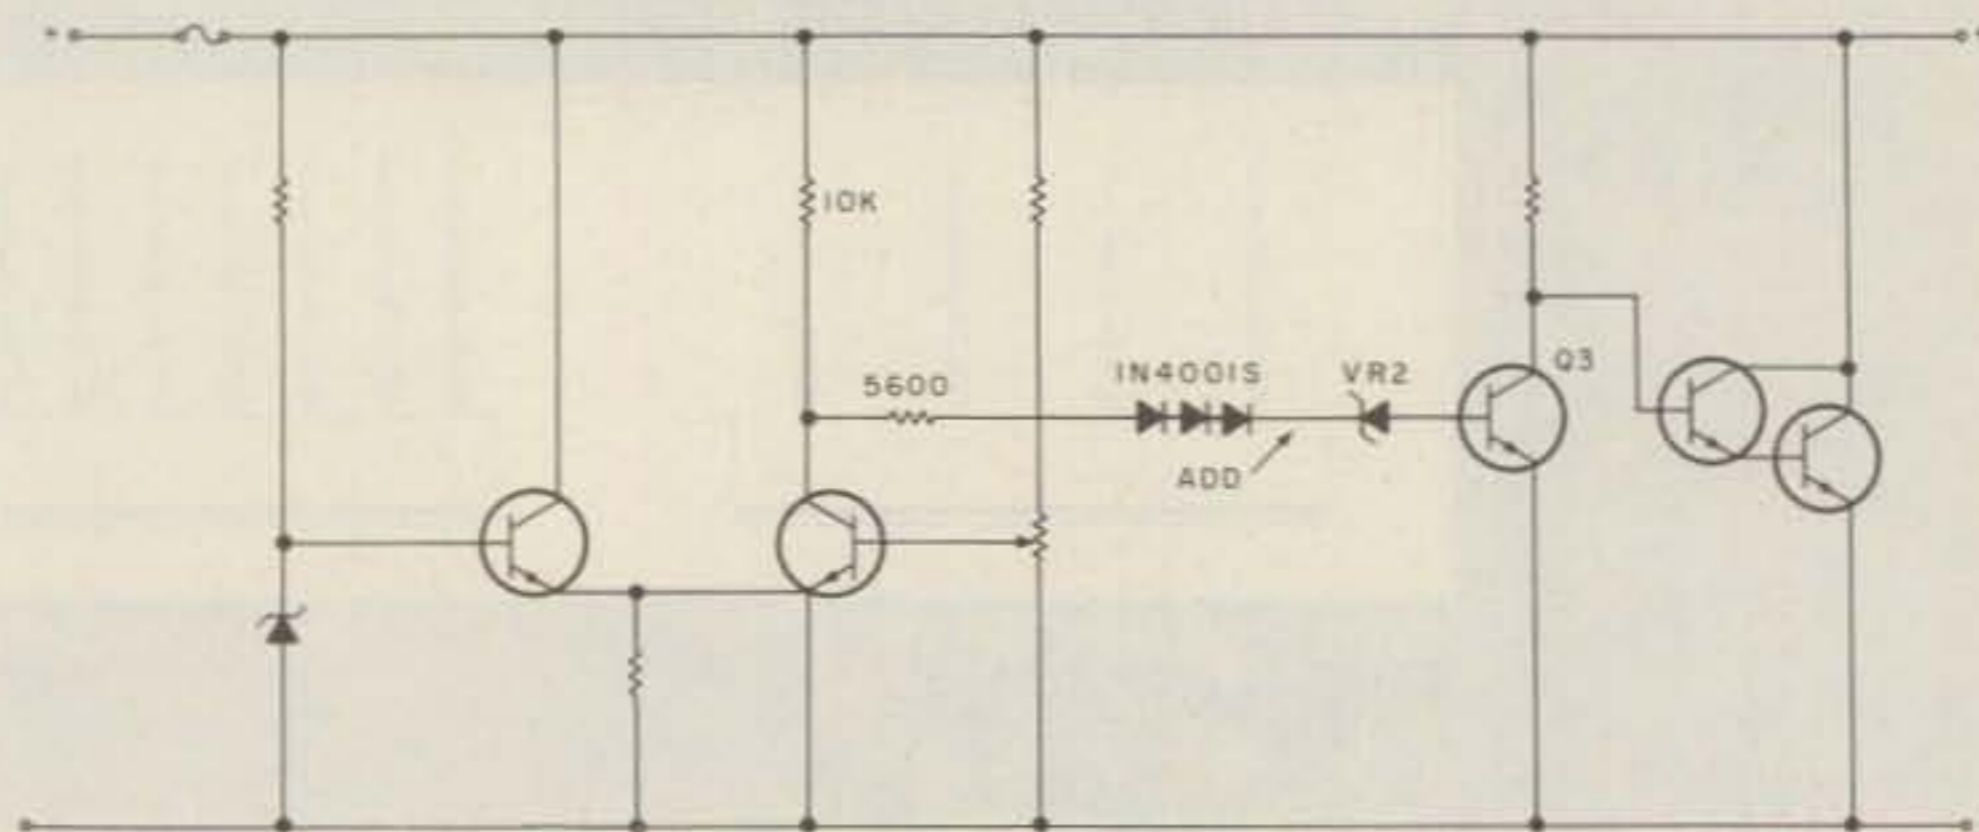

Fig. 2. Improved overvoltage protection circuit.
characteristic. This property will be helped along in the right direction by connecting 2 or 3 1N4001s (or other cheap silicon diodes) in series with VR₂ as shown in Fig. 2. An alternative solution would be to use a 6.8- to 8.2-volt zener for VR₂.
4. Connect Q₁ collector to the junction of the 10k and 5600-Ohm resistors that used to be tied to Q₂ collector. See Fig. 2.